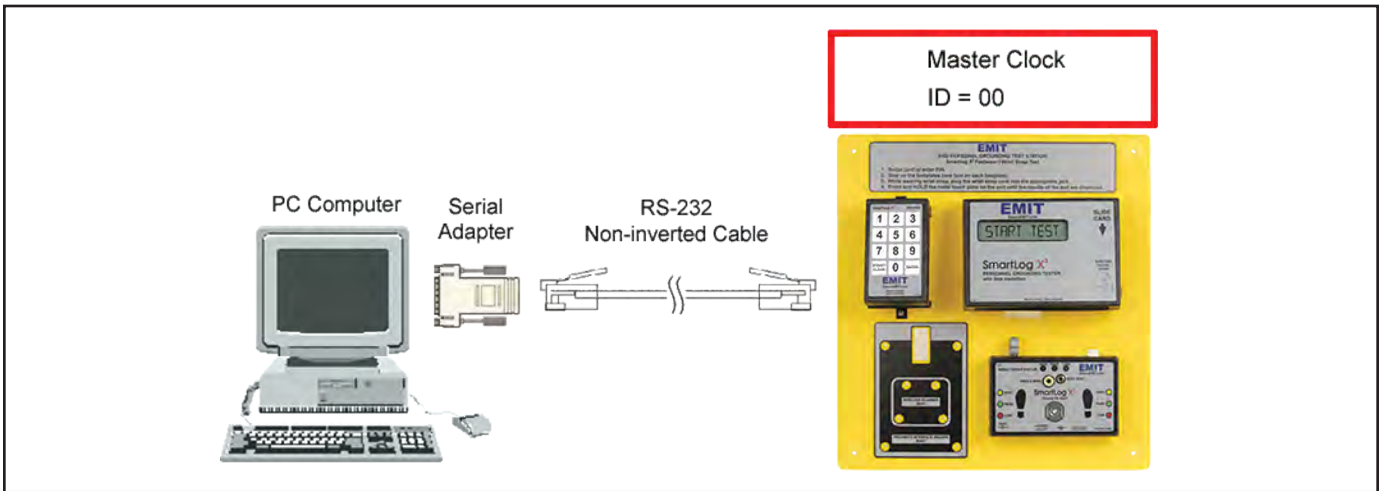

Figure 6. Connecting one SmartLog X3
Connecting One SmartLog X3 (See Figure 6)
- a. Verify that the cable from the computer to the SmartLog X3 is properly connected. The cable should be flat non-inverted (See Figure 6).